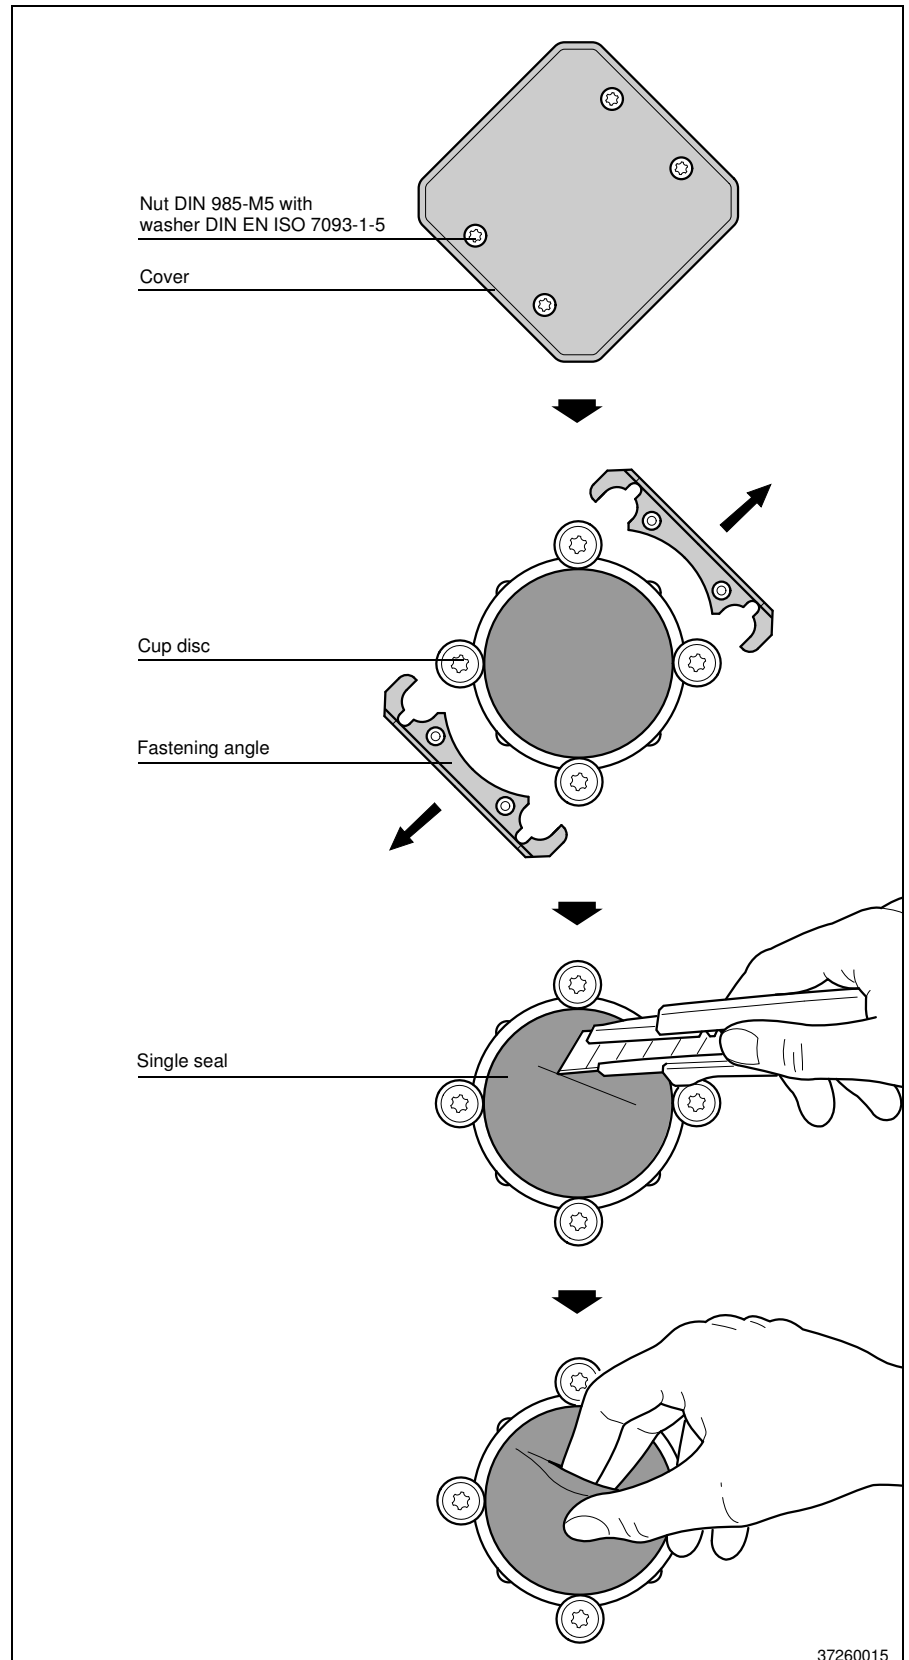

Fig. 28
- Loosen nuts and washers (OW 8) and remove the cover (Fig. 28).
- Pull both fastening angles laterally out from under the cup discs (Fig. 28).
- Cut the single seal with a sharp knife across the free surface (ventilation) (Fig. 28).
- Grip with your fingers into the cut and pull the single seal out (Fig. 28).